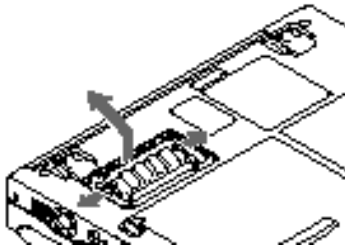

Figure 4-12 Removing a Memory Upgrade Module
7. **Align the memory upgrade module with the part side up. Align the connector edge of the memory upgrade module with the connector slot in the compartment. The connector will be pointing toward the rear of the notebook. (Figure 4-12.)**
8. **Insert the memory upgrade module at a 45° angle. (Figure 4-12.) Press the connector edge of the module firmly down and into the connector.**
2. **Pull the clips sideways away from each side of the memory upgrade module at the same time. (Figure 4-12.)**
3. **While holding the clips out, remove the module from the slot by lifting it up and pulling towards the front of your notebook. (Figure 4-12.)**